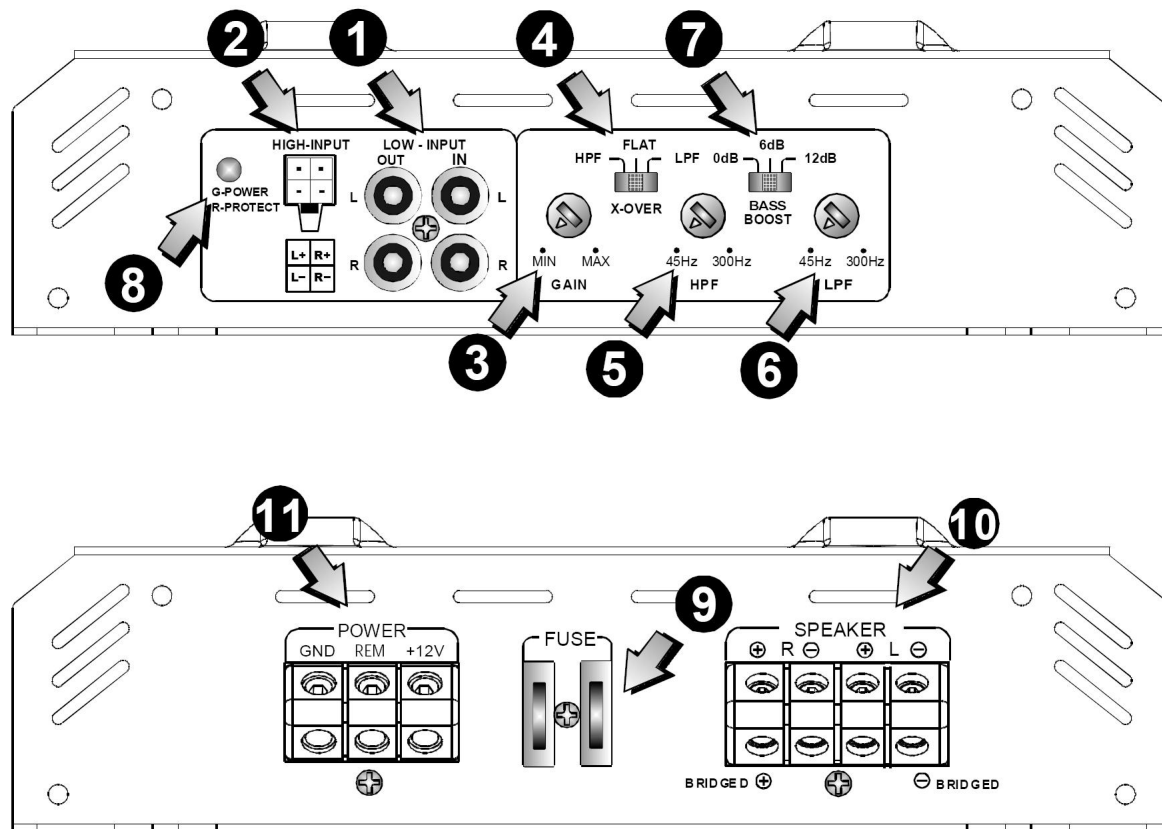

Fig. 5
The regulator for input sensitivity is used to adapt amplifier for each car radio or tape deck. Turn the volume control of your radio to central position and adjust the input-level control (3) Fig. 5, to produce medium volume. This setting can provide sufficient power and optimum Signal to Noise (S/N) ratio.